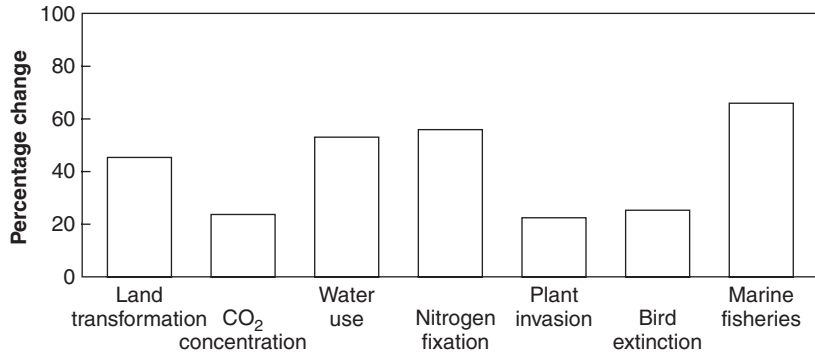

Figure 1.1
A 1997 article in the journal, *Science*, “Human domination of Earth’s ecosystems”, spoke of humanity’s impact on the environment.¹ See **Figure 1.1** from left to right. (1) Up to one half of Earth’s land surface has been transformed by human action. (2) The percentage of the concentration of the atmospheric greenhouse gas, carbon dioxide, that results from human action. (3) The percentage of accessible surface fresh water on Earth being put to use by humanity. (4) The percentage of nitrogen fixation caused by humans is more than all natural terrestrial sources combined. (5) The percentage of plant species in Canada that humanity has introduced from elsewhere, i.e., invasive or exotic species. (6) The percentage of bird species on Earth that became extinct in the past two millennia (largely) from human activity. (7) The percentage of major marine fisheries that are fully exploited, overexploited, or depleted.